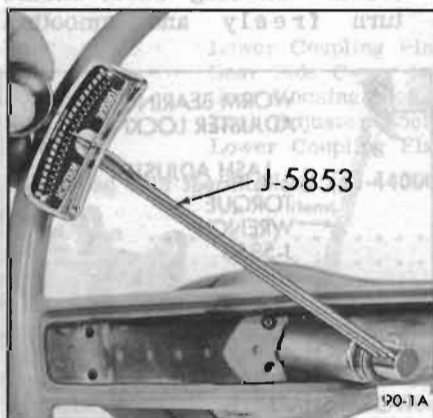

Figure 90-2—Checking Adjustments in Car
6. Attach torque wrench J-5853 to steering wheel nut and check the torque required to turn the wheel (see Figure 90-2). The torque required to keep wheel turning should be between 2 and 7 pound inches and should be measured within 1/2 turn from extreme position.